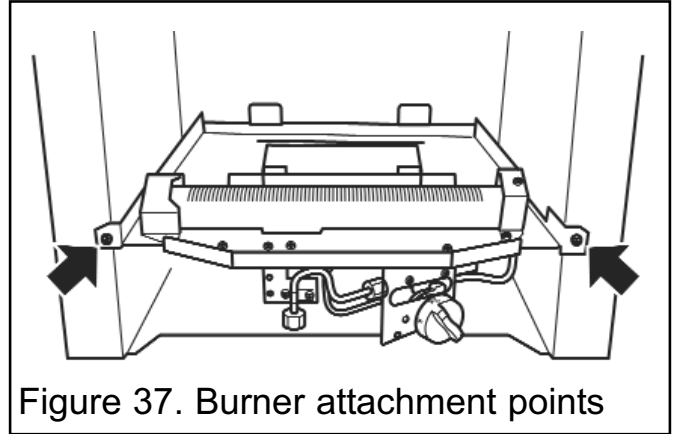

Figure 37. Burner attachment points
4. Detach the burner unit from the hotbox by removing two screws (See figure 37).